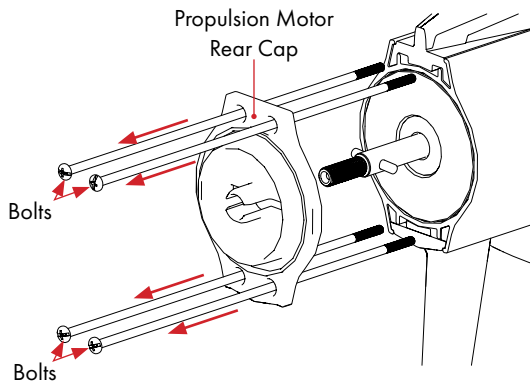

Figure 2
STEP 4 Using a **#2 Phillips screwdriver**, loosen the (4) **Bolts** that hold the nose cone and **Propulsion Motor Rear Cap** in place. Remove the **Bolts** and **Propulsion Motor Rear Cap**. **FIG 2**